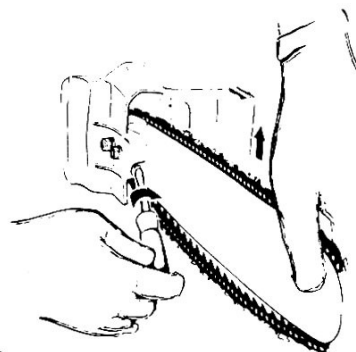
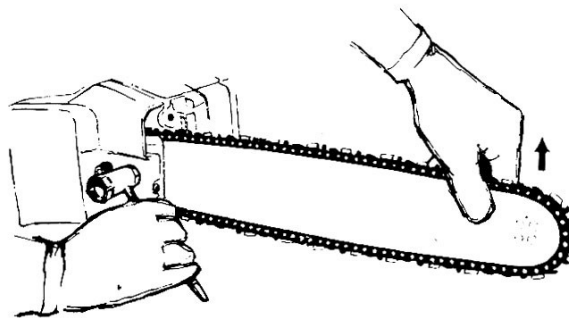
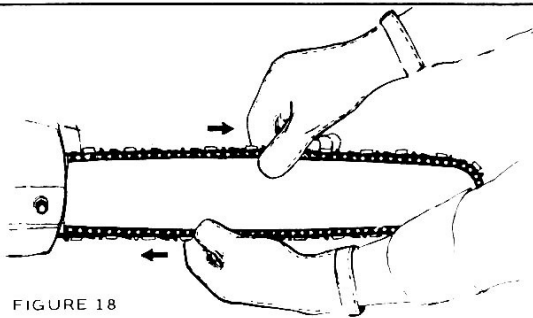

FIGURE 16
FIGURE 17
FIGURE 18
4. Lifting the nose of the guide bar, adjust the chain tensioning screw as shown in Figure 16 until the chain is in contact with the lower guide bar rails. Tighten the clutch cover nuts as shown in Figure 17. A properly tensioned chain will be snug over the entire contour of the bar but still allow for free movement around the bar. See Figure 18.